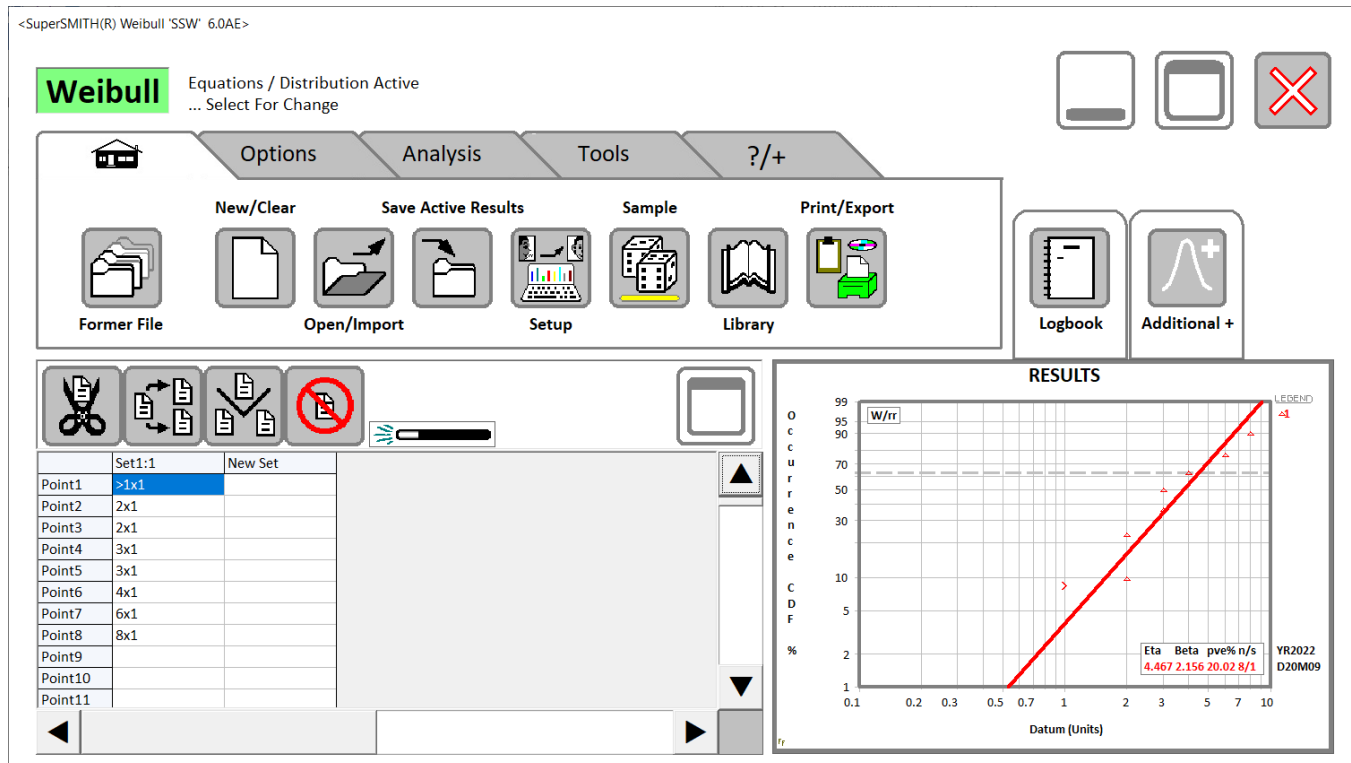

Figure 2: New SuperSMITH Weibull Main Screen Icon Layout.
DIRECT INSTALL: Power up the PC (Windows or simulator). Have the SS **setup.exe** and other installation files available. Load onto the PC by running **setup.exe** and following the prompts. After install, within the SuperSMITH group, select the SuperSMITH Weibull program. This is the SMITHW.EXE file or the icon showing plotted data with fit and confidence lines. Initially select “Yes” to agree to usage conditions, and automatically advance to the Main Screen (Figure 1 below shows the former icon layout, Figure 2 on the next page shows the new icon layout).
Use single selecting (single touching for touch screens) mostly in SuperSMITH. Double selecting is discouraged to minimize hand stress. We will be using life data mostly for illustration, but any type of measured data with variability can be analyzed. **For this tutorial if using the DEMO software, all input data must only be loaded from a file previously saved by a FULL SuperSMITH software program (provided with the software).** If using the FULL software, this is not a concern but maybe easier to do. All file names shown here are on a single text line for easy copying. Reminder: Figure 1 shows the new SSW icon layout for standard pointing device use, and Figure 2 shows an optional larger icon layout with tabs for touch screen use.
Start the SSW software by choosing Start from the Windows™ Main Screen, then the SuperSMITH group, then Weibull. On first use, select “Yes, I agree...” if you are asked and if you agree to the software use terms. The Main Screen (View of Figure 1 or Figure 2) should appear with an equation Label (“Weibull” at first), some icons, a data grid and a results box.
- B. Probability plot should appear. Select plot to enlarge. The plot should resemble Figure 2. Your solution should indicate Eta=4.467, Beta=2.156. If not ... check the data and/or reset the method to Weibull “rank regression” standard. Select the full-window plot or use the <ESC> key to shrink the plot returning you to the Main Screen.